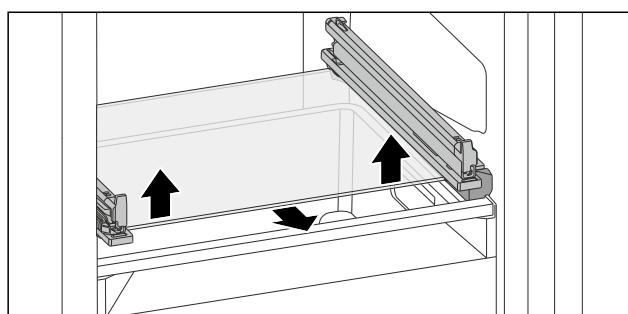

Fig. 104 Tilting drawer glass shelf
- Press the glass shelf upwards from below on both sides. (see Fig. 104)